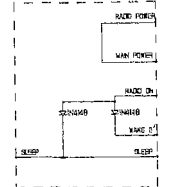

Fig.16a RADIO SWITCHING BY BIAS CHANGE
- Option 1(Fig.16A, 16B) Direct audio amplifier control (no active components)